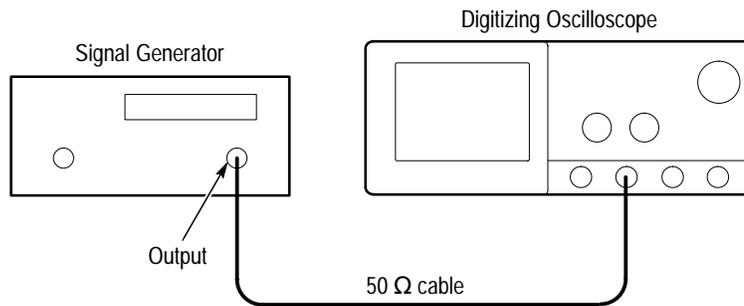

Figure 4-31: 60 Hz Rejection test hookup
- Connect the output of the signal generator to the CH2 input through a 50  $\Omega$  cable. See Figure 4-31.